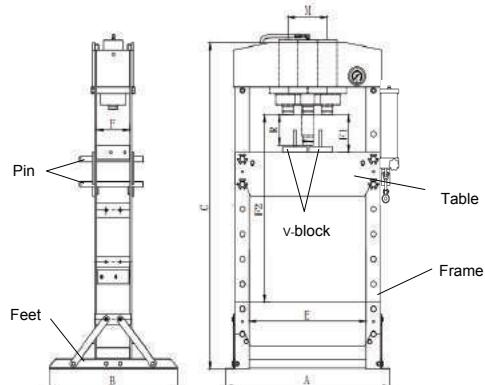

Fig.02
- The feet are fixed to the chassis using the screws provided, and the tables to the two B axes of Fig.02 which have previously been positioned on the outlets of the columns according to the chosen work height Fig.02. Attach the base section and support to left and right connecting plate using bolt, washer, lock washer and nut.